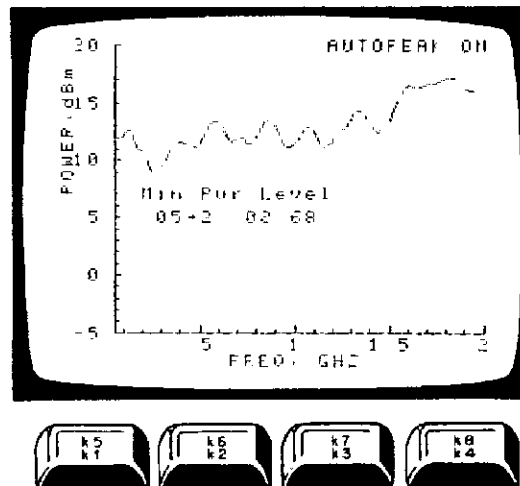

Figure 5-33. Low Band Clamp Response
6. Press **k5**, LO PWR, to run the test which measures the YTM local oscillator power. A graph as shown in figure 5-33 will be printed.